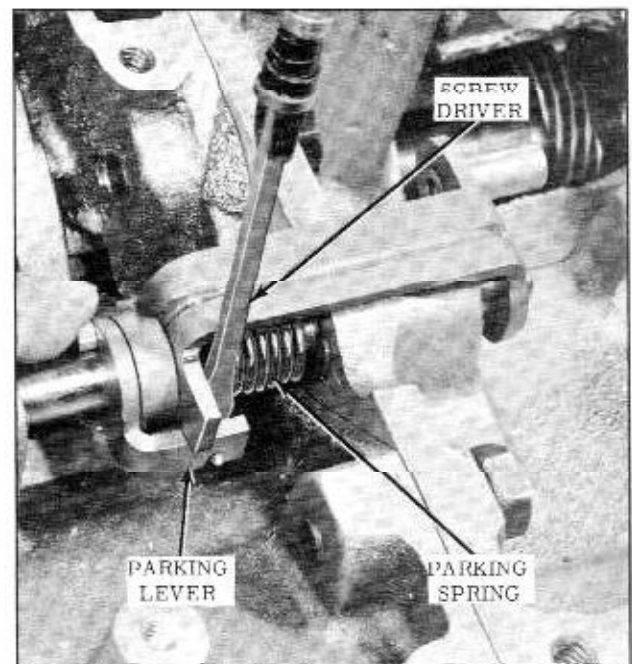

Fig. 3-116 Installing Parking Lever Spring
51. Hook curved end of spring into notch on parking lever. (Fig. 3-116)